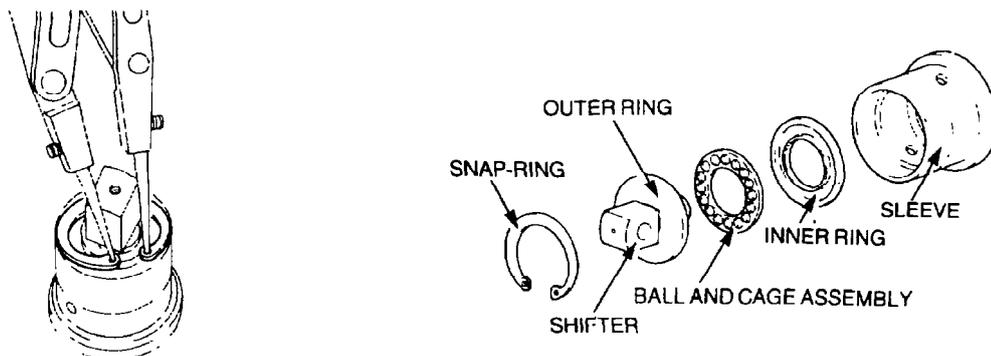

Figure 99 Removing the Shifter and Bearing
- y. Remove the circlip securing the shifter to the sleeve and remove the shifter and bearing assembly from the sleeve (Figure 99).